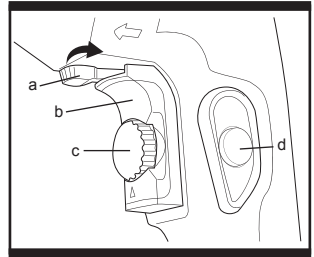

Fig. 6
5. SPEED ADJUSTMENT (Fig. 6)
6. SWITCHING ON AND OFF (Fig. 6)
7. FORWARD AND REVERSE ROTATION CONTROL (Fig. 6)